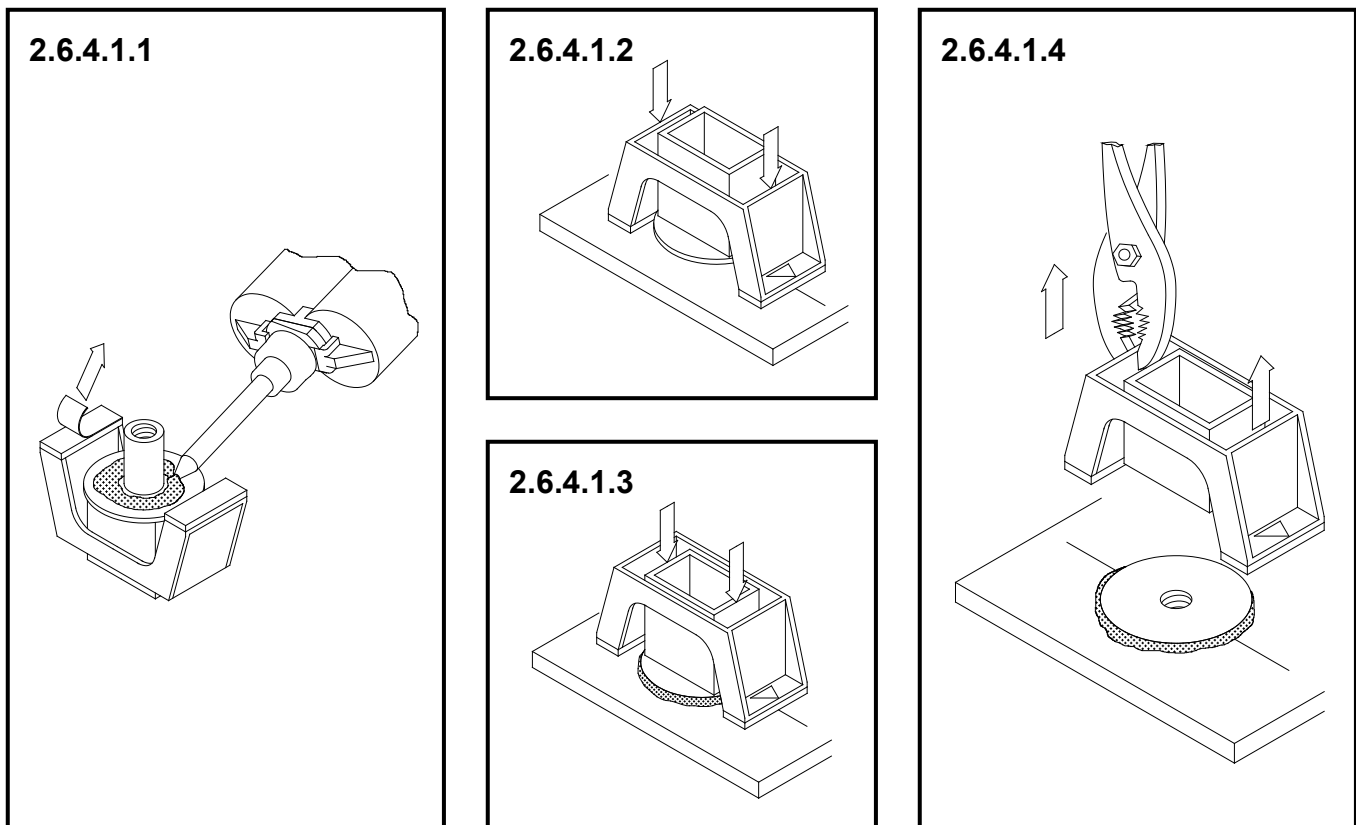

FIGURE 9. PROCEDURE FOR ATTACHMENT OF CLICK BOND BUSHING
2.6.4.2 Bushings – Elastic Pressure Application Fixture (PAF) type. Figure 9 indicates the sequential steps required to install this type bushing.